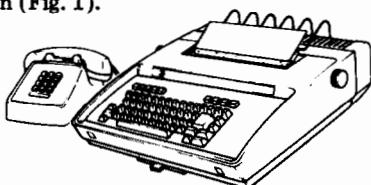

Fig. 1—43 KSR Station
1.01 This section provides station installation and removal information for the 43 KSR Station (Fig. 1).